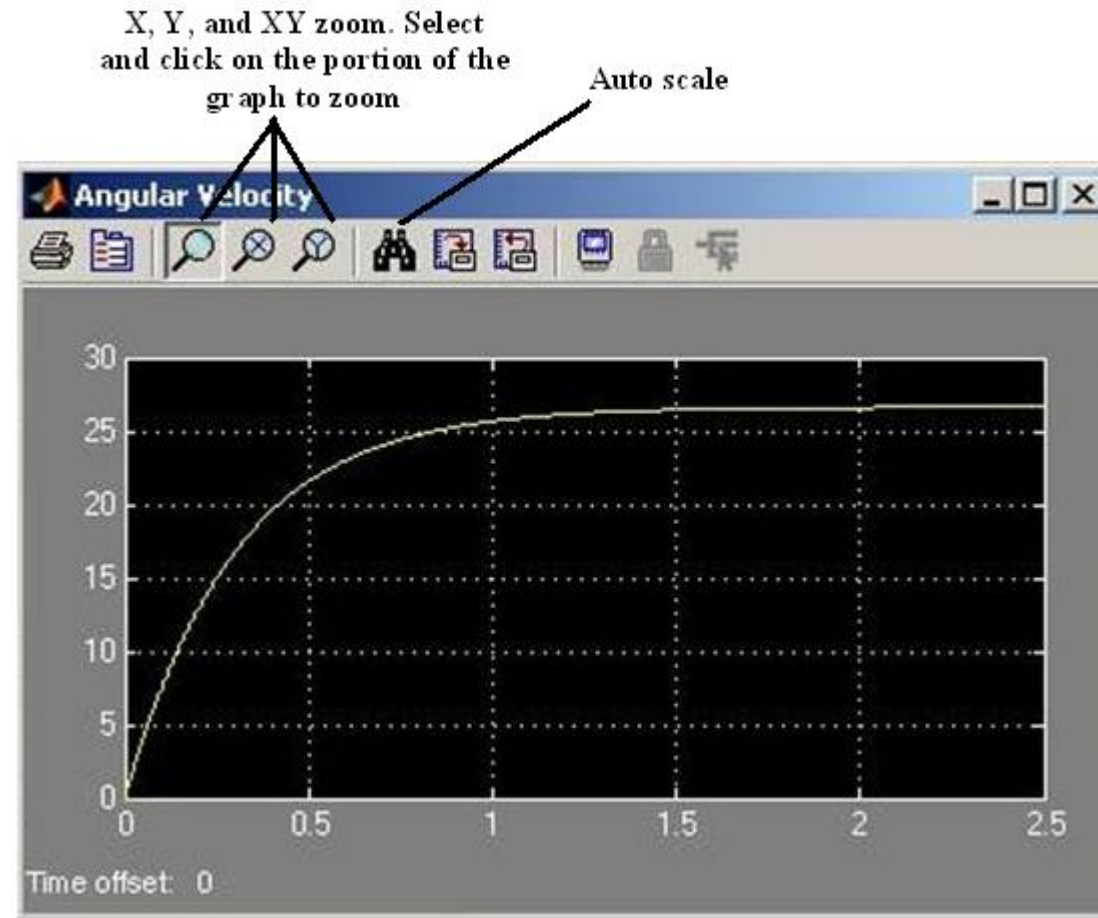
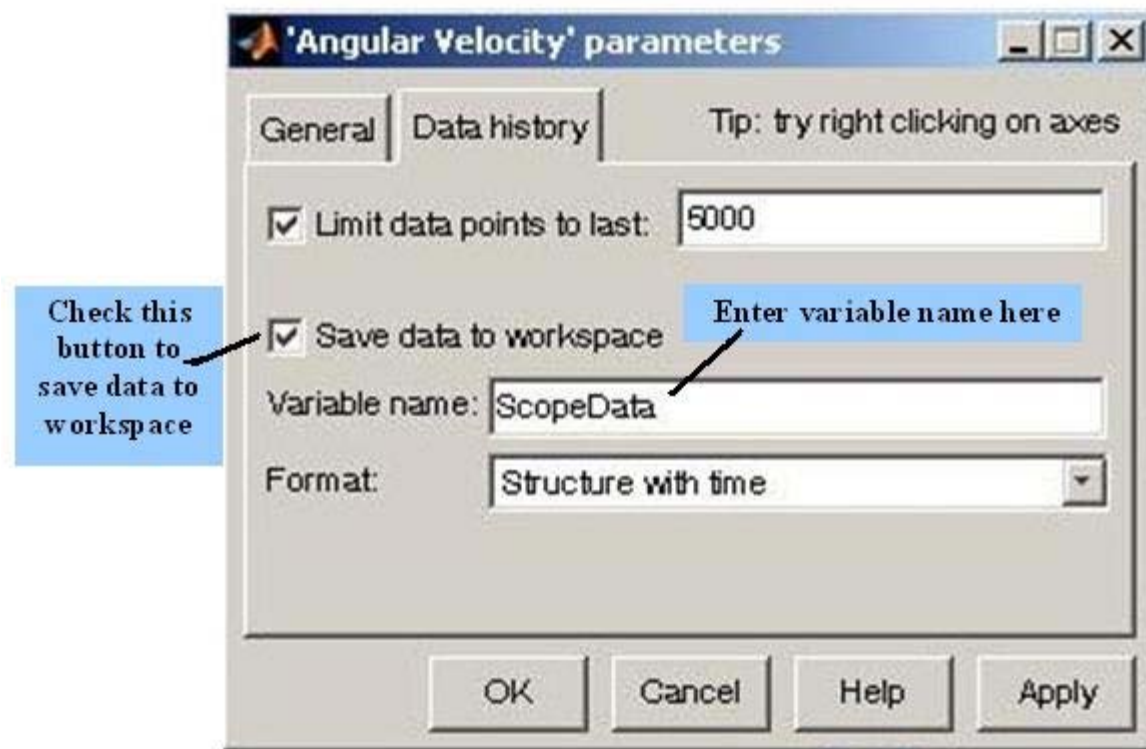

Fig. M3.14 Scope display of angular velocity
Fig. M3.16 Scope parameter setting window
Now we are ready to simulate our block diagram of armature-controlled dc motor. Press  icon to start the simulation. Note that the icon changes to ; pressing this icon, one can stop the simulation before stop time. After simulation is done, double click the **Scope** block to display the angular velocity variation with time. Click the autoscale icon  in the display window to scale the axes as per the variable ranges. Autoscaled scope display is shown in Fig. M3.14. With zoom facility, try zooming the portion of graph between 0.5 to 1 sec, and 20 to 25 unit angular velocity to identify the numerical value of angular velocity at 0.8 seconds.
Click the icon  shown on the icon bar of Fig. M3.14 to open scope parameter editor (Fig. M3.16). **General** parameters include **Number of axes**, **Time range**, **Tick labels**, and **Sampling**.
3. **Array** : Array format is simply a two column matrix with number of data points being equal to number of rows. The maximum number of data points limits to the number entered in the box **Limit data points to last**. In Fig. M3.16, the limit is 5000 data points.